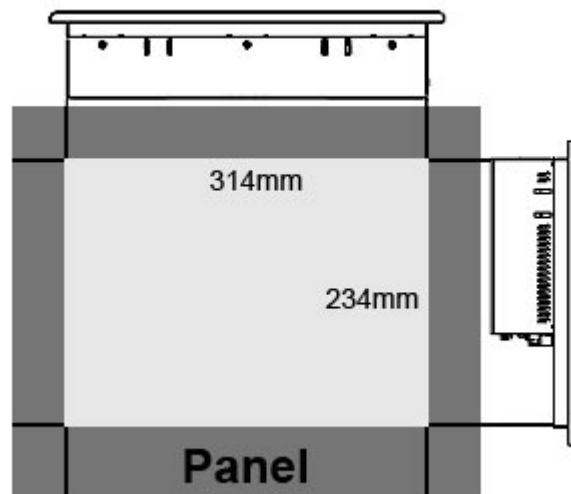

Figure 4-26: Suggested Panel Cut Out Size for PPC-3712A-N270
- Step 3:** Cut out a section from the panel that corresponds to the dimensions of the flat panel PC chassis. The panel section that is cut out must be smaller than the size of the aluminum frame that surrounds the 12.1" TFT LCD panel but just large enough for the chassis to fit through (**Figure 4-26**).